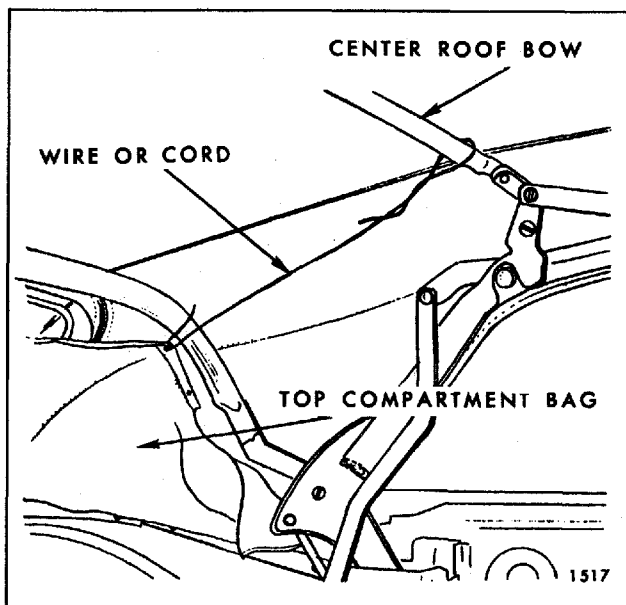

Fig. 6-5—Top Compartment Bag Tied To Center Bow
17. Detach folding top compartment bag from rear seat back panel, thus exposing rear quarter and rear trim stick attaching bolts. Forward end of top compartment bag may be tied or wired to center roof bow to provide ready access to attaching bolts (Fig. 6-5).